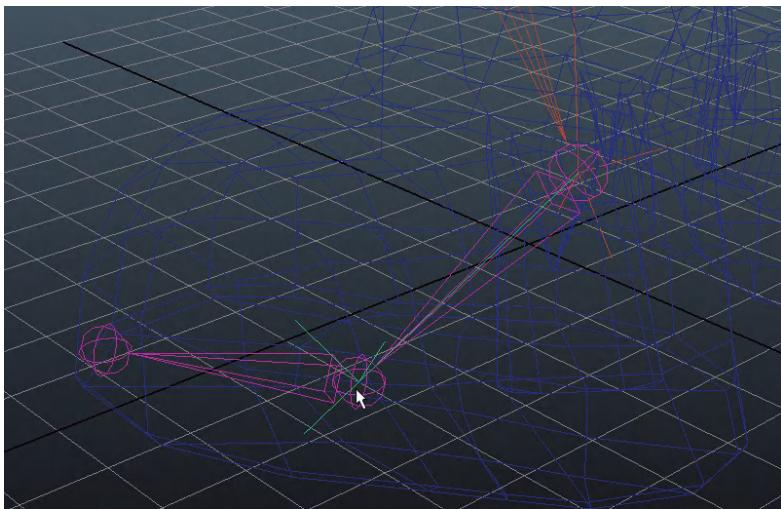

FIG 8.9 Second IK chain between ankle and ball.
Step 14: Create an IK chain between L_Ankle and L_Ball. Again, activate the IK Handle Tool and then click once on the L_Ankle and second time on L_Ball. Rename the new ikHandle to L_BallIK (Fig. 8.9).